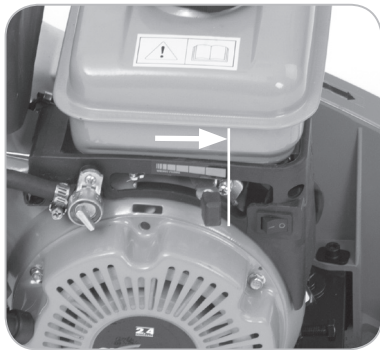

Fig. 7
- Set the throttle lever to maximum. **(Fig.7)**